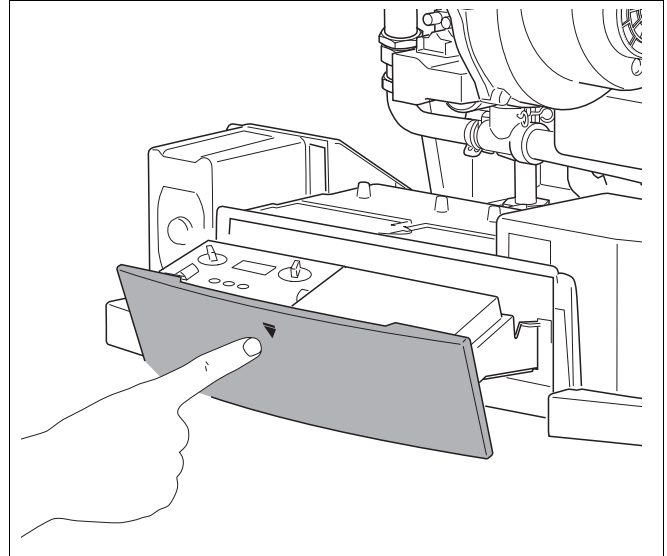

Fig. 40 Closing the control panel
- Push against the drawer (fig. 40) to close the control panel.